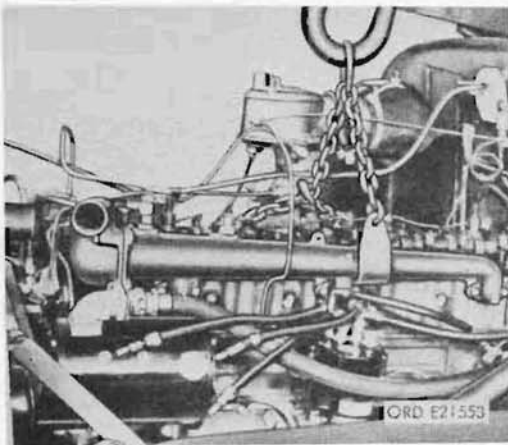

Figure 85. Removing cylinder head
- (16) Lift off the valve rocker arm assemblies from the cylinder head.
- (17) Install the cylinder head and manifold assembly lifting sling No. 4910-708-3213 (fig. 85). Slide the sling clamp forward on the water manifold as far as it will go. Hook the sling chain around the exhaust manifold and the carburetor mounting spacer tightly to avoid damage to the carburetor, governor assembly and primer lines when lifting the cylinder head. Lift the cylinder head straight up from the cylinder block. Check to see that all lines and cables are clear as the cylinder head is lifted. Remove the cylinder head, and discard the cylinder head gasket and exhaust pipe gasket.